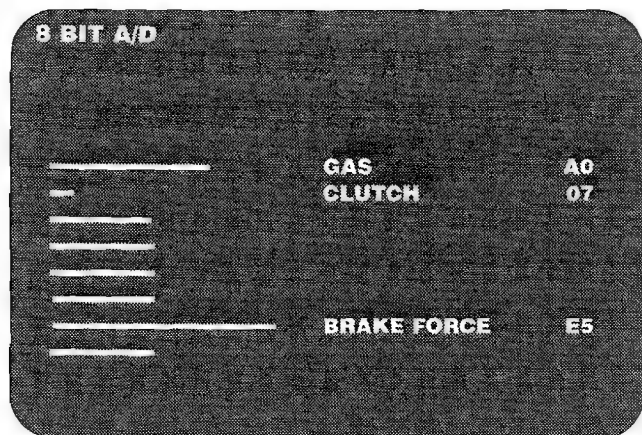

Figure 2-20 Pots: 8-Bit Screen
- The *Pots: 8 Bit* screen has the same information as the *Control Inputs* screen. This screen appears in Figure 2-20. It shows the voltage inputs from the control potentiometers to the A/D converter circuits. As you use a control, the line on the screen changes as the voltage input changes. If the line does not change, see the information about that control in Chapter 3.